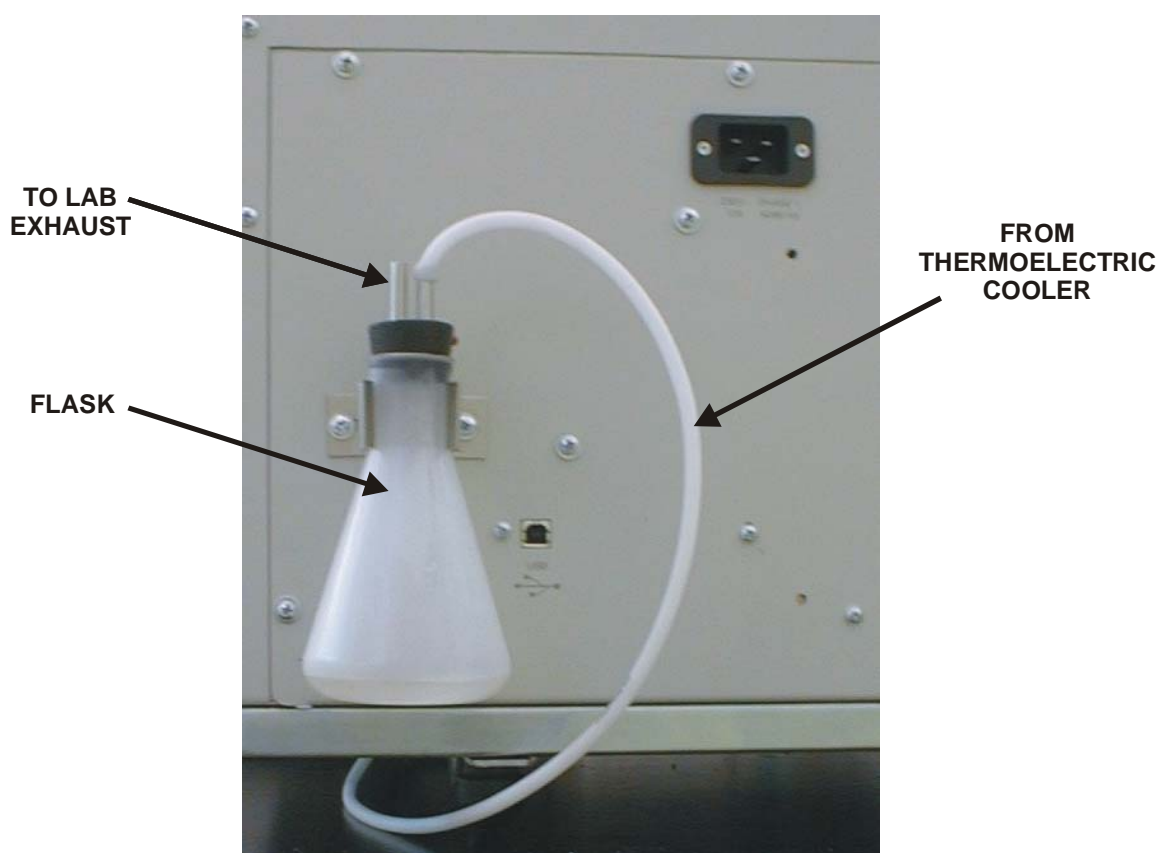

Figure 2-4
| Figure 2-4 Exhaust Flask Installation..... | 2-10 |
1. Attach the exhaust flask holder to the rear of the instrument using the screws supplied, Figure 2-4, below.